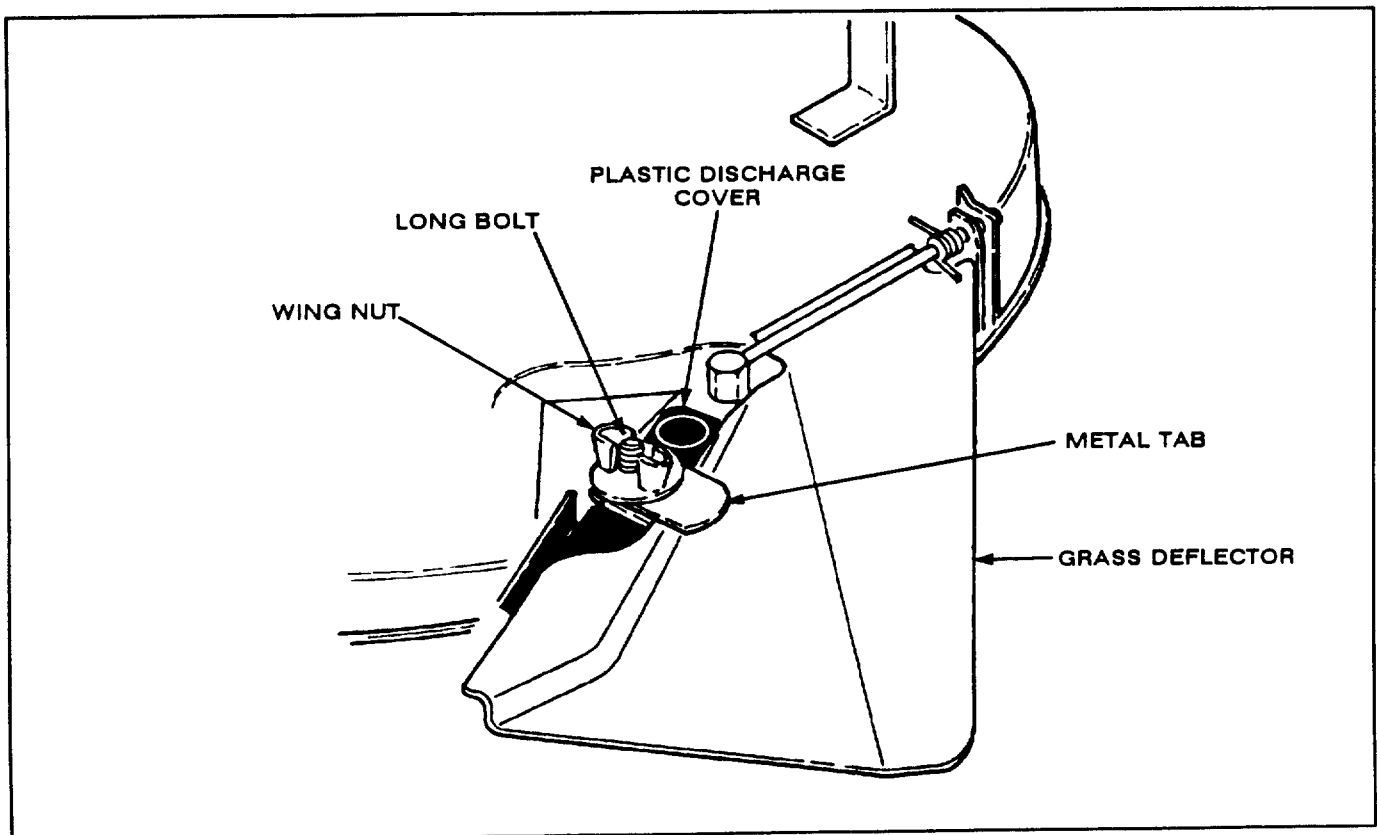

Figure 1
INSTALLING DISCHARGE COVER (Fig. 1)
2. Place metal tab on long bolt as shown in Figure 1.